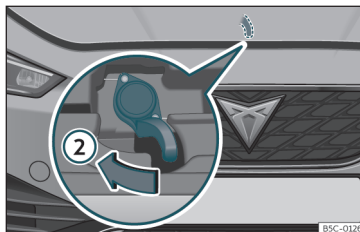

Fig. 202 Lever under the bonnet.
- To lift the bonnet, press towards the left on the lever located under the bonnet, in the centre» **Fig. 202 ②**. The arrester hooks are released.